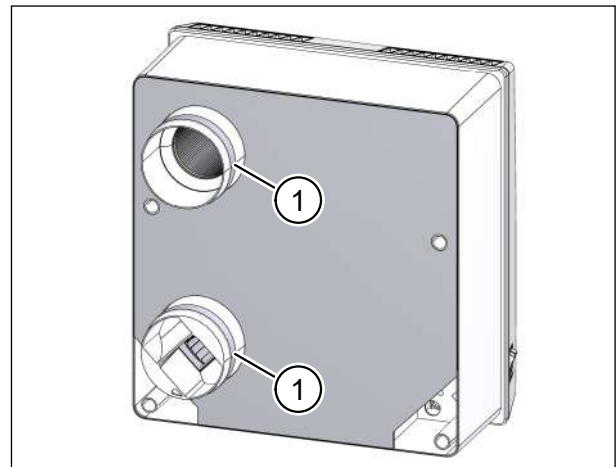

Fig. 32: Checking the seals around the air spigots
- ▶ Check that the seals (item 1 in Fig. 32) around the air spigots on the back of the ventilation unit are undamaged. Damaged seals should be replaced immediately.
For ease of installing the unit (see section 11.7 on page 36), you can apply washing-up liquid or Vaseline to the seals (item 1 in Fig. 32) on the air spigots.